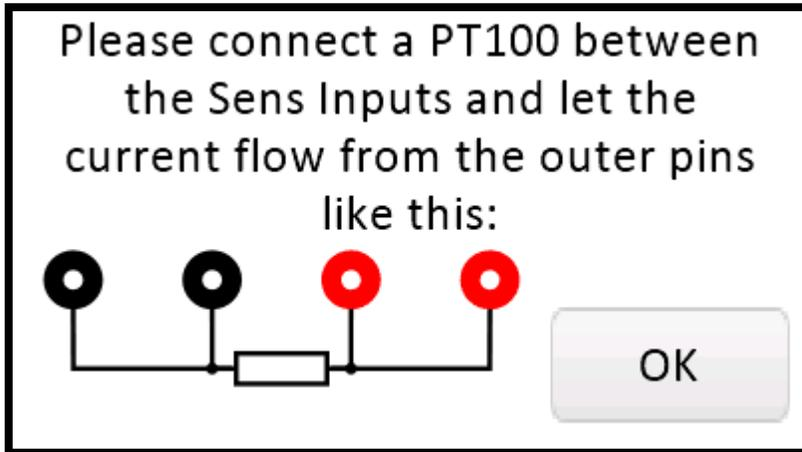

Figure 15. MAXREFDES183# temperature measurement connection.
19. The next screen (**Figure 15**) will show how to connect the temperature-sensor (4-wire mode).